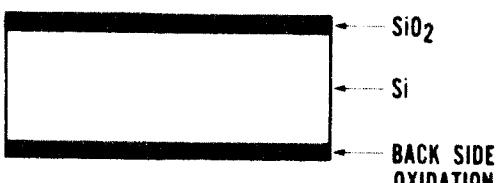

Fig. 9
In making Planar devices, each time a wafer comes out of a furnace the entire wafer has silicon dioxide covering all junctions. Towards the end of each diffusion step oxide is grown over the diffusion windows. Thus the junctions are protected during each step. Figures 9 to 12 show the multiple diffusion-oxidation cycle involved for a double-diffused device. Note: (1) that the multiple oxidations leave steps in the oxide. Oxide grows everywhere when it grows at all, including the reverse side of the wafer. These steps can clearly be recognised under a microscope as apparently different colours, due to the refraction of light through the different thicknesses.